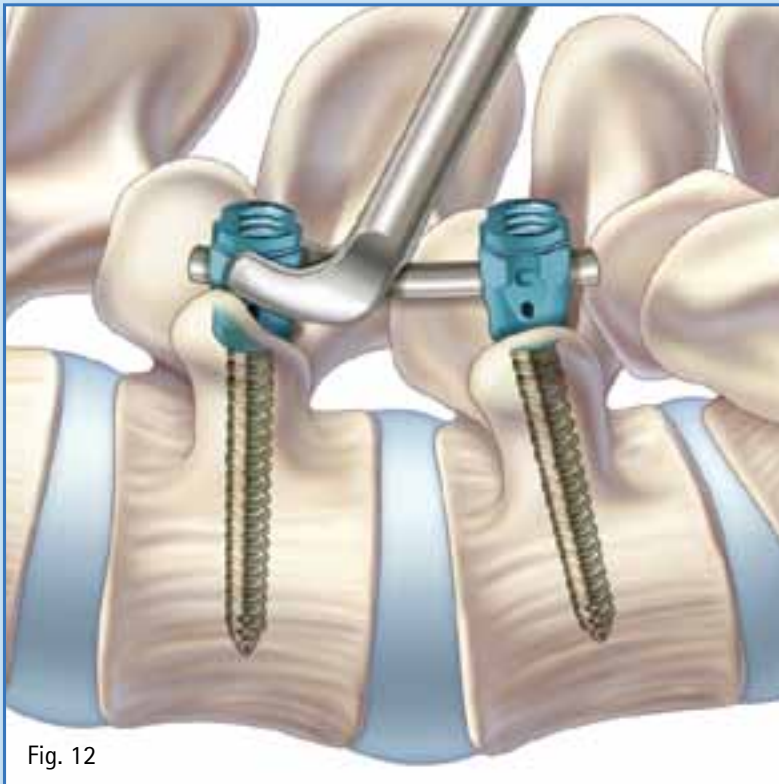

Fig. 12
- Align the pins in the fork rocker with the line on the pedicle screw body, and fit into the under cut grooves on the medial and lateral edges. (Fig. 12)